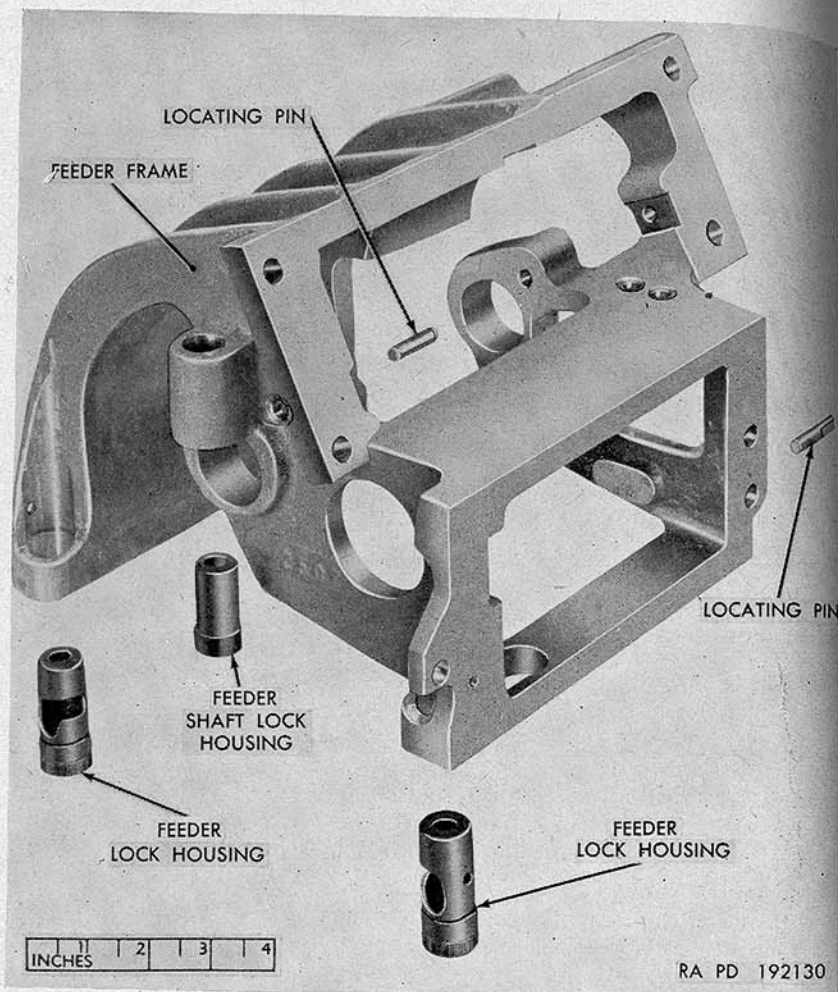

Figure 90. Feeder frame assembly—exploded view.
- b. Use a drift and drive out the feeder lock housing and the feeder shaft lock housing (fig. 90).
- c. Pull out the locating pins in the forward end of the feeder frame (fig. 90).
a. Install the two lock housings and one shaft lock housing in their proper position on the feeder frame (fig. 90). Drive them into place, being sure that the lock housings are flush with the lower surface of the feeder frame.